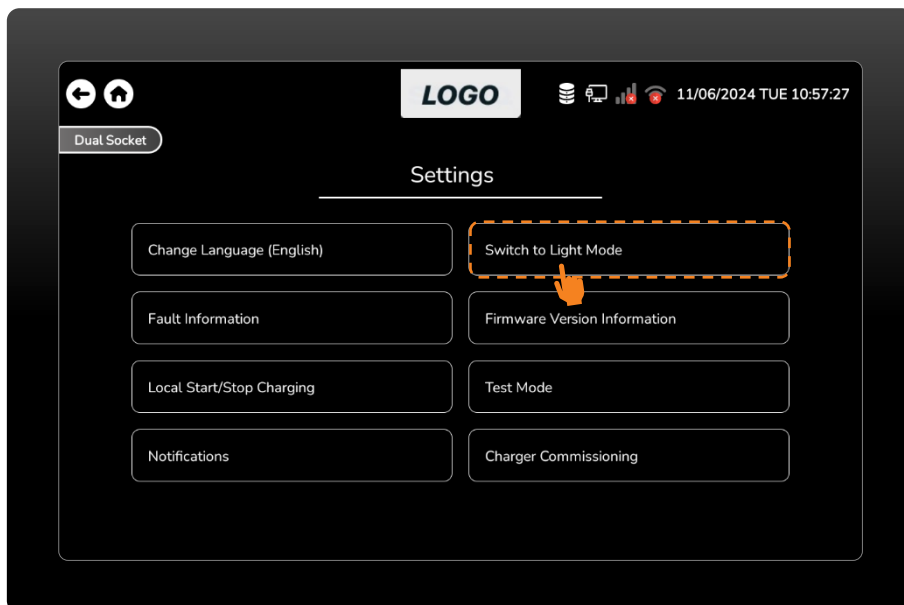

Figure 16 Press the Switch to Light Mode.
- Press the “Switch to Light Mode” option. (Figure 16)